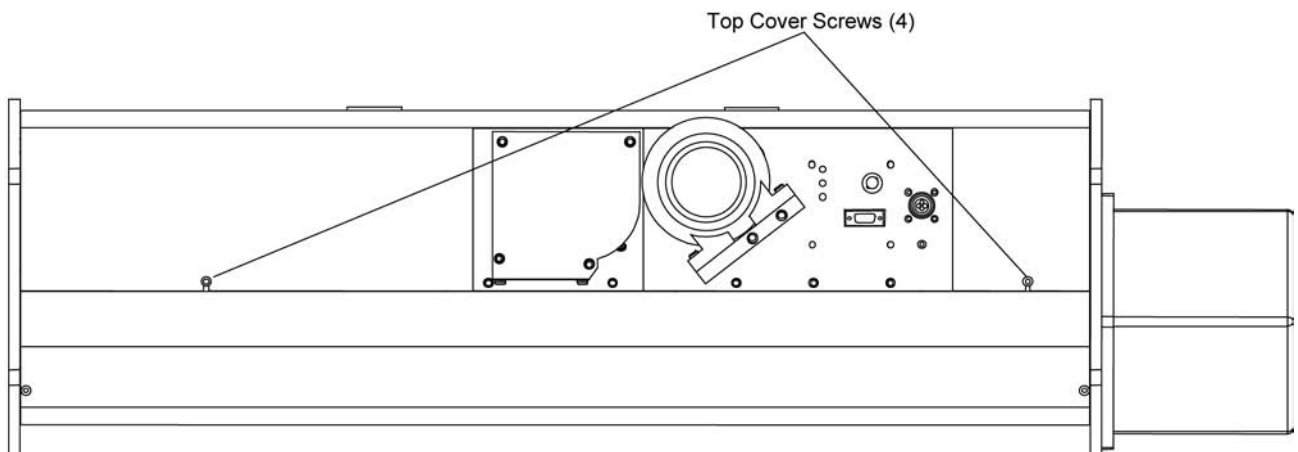

Figure 8-7
2. Loosen the four screws fastening the Nephelometer top cover and remove the cover (Figure 8-7).